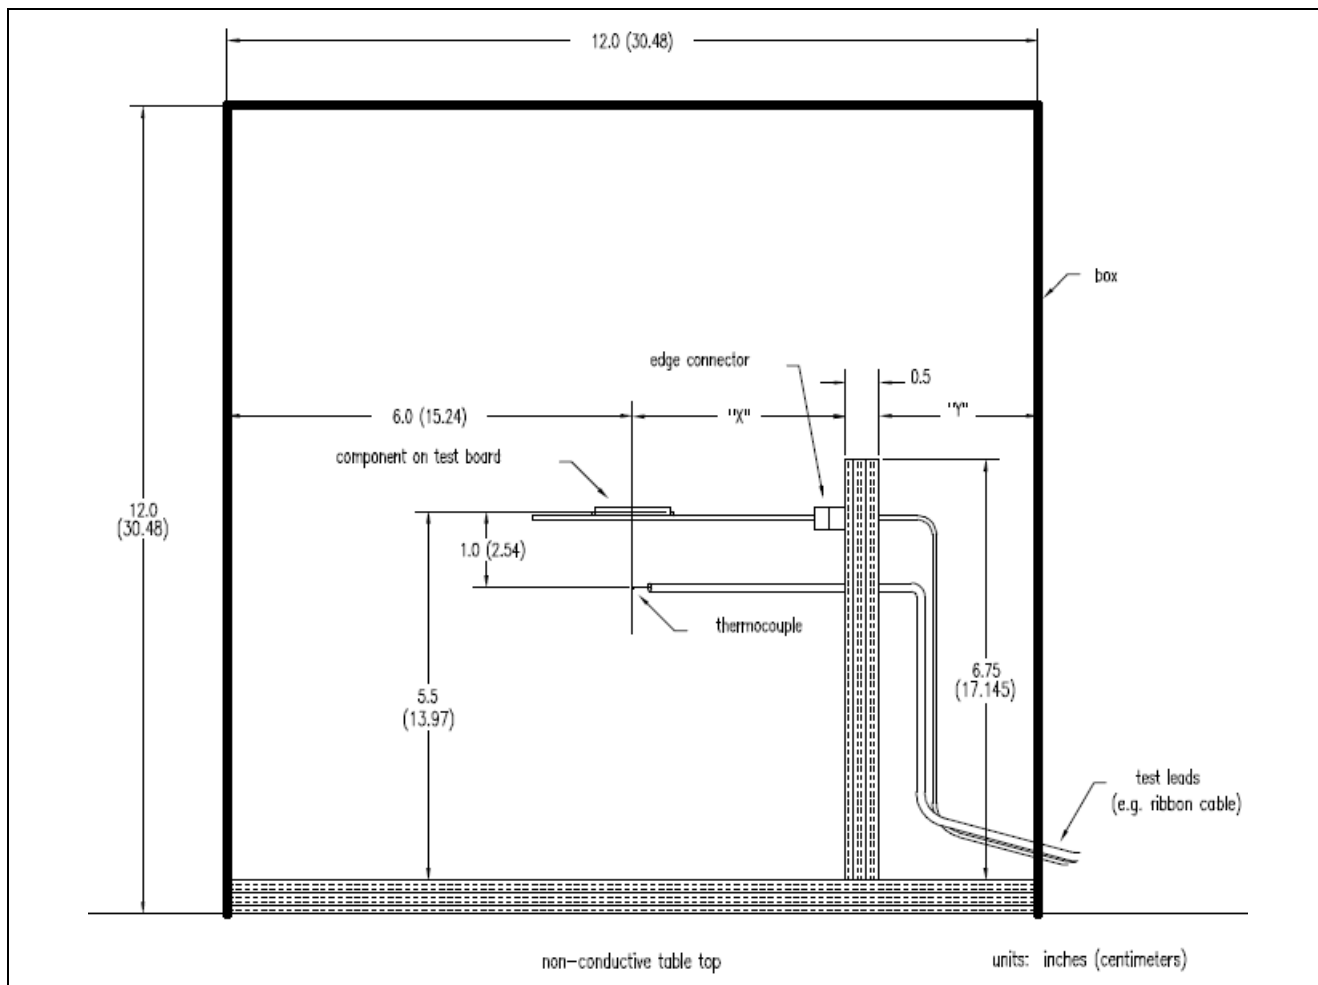
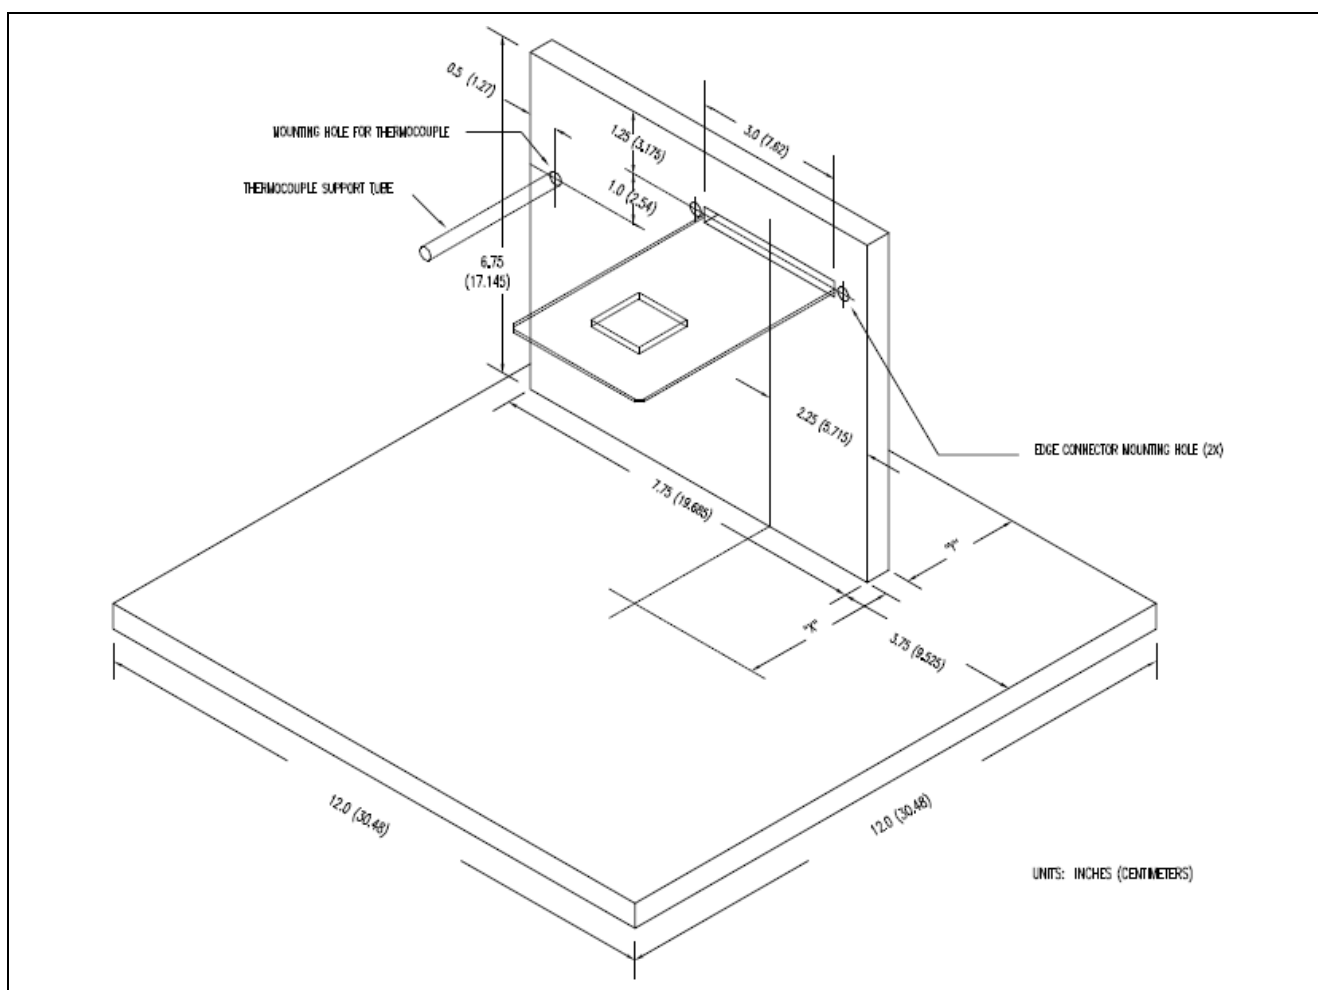

Figure 2-1 T_a measurement position (from the EIA/JEDEC 51-2 Standard)
**Figure 2-2 Ta measurement position - bird's eye view (no chassis)
- T_a (ambient temperature): T_a is the temperature at a place that is not affected by heat sources and is based on measurement methods stipulated by JEDEC (Figure 2-1 and Figure 2-2). See the EIA/JEDEC Standard 51-2 for details. Also see the product and package information that Renesas provides on its website.